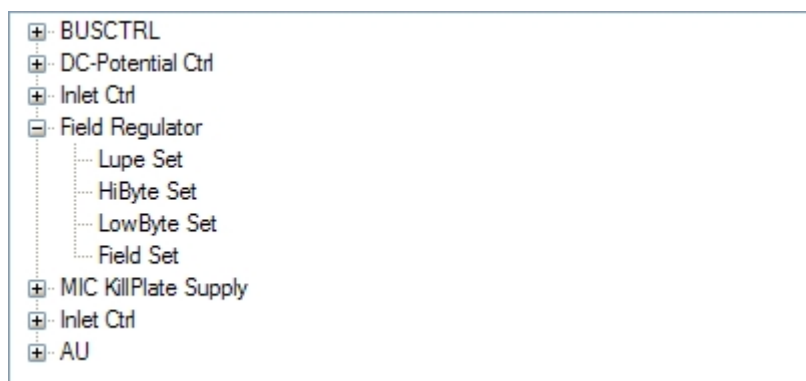

Figure 3-36. MS Inlet Control
5. After this process is completed, you see a list of predefined hardware items in the **Hardware Items** panel, see Figure 3-36.